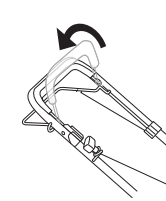

Fig.6C
3. To start the engine, hold the brake control bar down to the upper handle (Fig.6C).